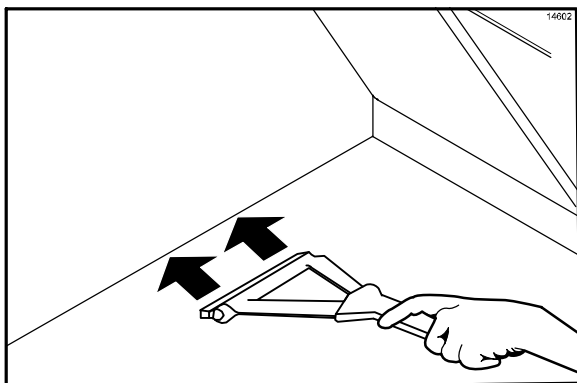

Figure 76
- Use the grill squeegee to push residual grease into the grease pans. (See Figure 76.)